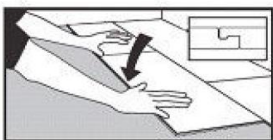

Figure 4
13. Press down firmly on end joint, preferably tapping with a rubber mallet to fully engage short end. (**Figure 4**)